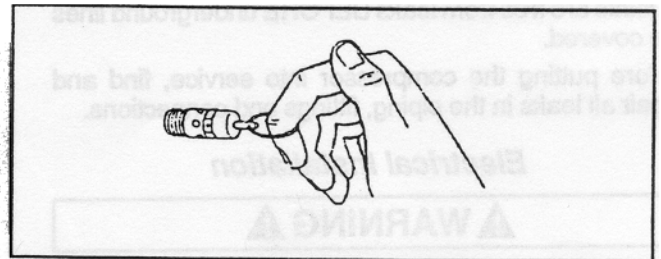

Figure 4 - ASME Safety Valve
This valve automatically releases air if the air tank pressure exceeds the preset maximum for the unit (See Figure 4). This valve should be checked occasionally by pulling the ring by hand. If air leaks after the ring has been released, or the valve is stuck and cannot be actuated by the ring, the valve **MUST** be replaced.
1. Pull ring on safety valve and allow the ring to snap back to normal position (See Figure 4).